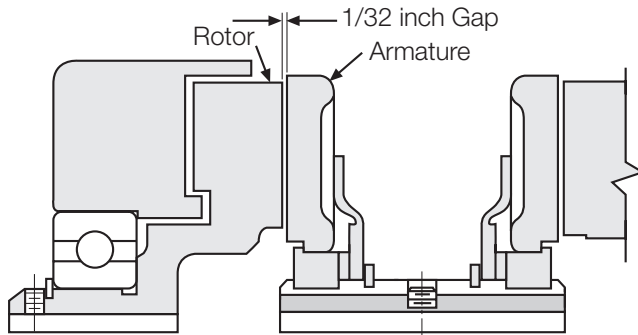

Figure 8
2. Adjust the rotor's position on the shaft to allow approximately $1/32''$ gap between the faces of the rotor and armature. (Figure 8)